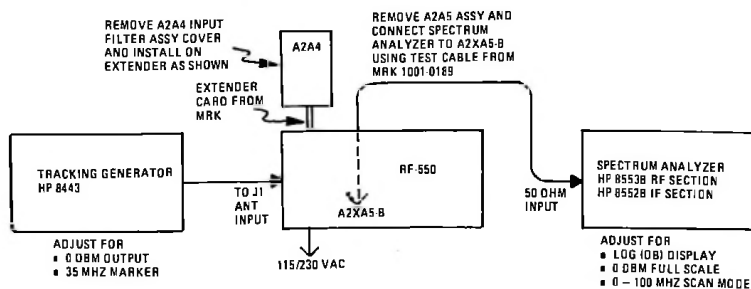

Figure 3. Alignment Test Setup for Assembly A2A4
- HF Spectrum Analyzer, HP 8553B (RF)/8552B (IF)
b. The equipment setup for alignment is shown in figure 3.